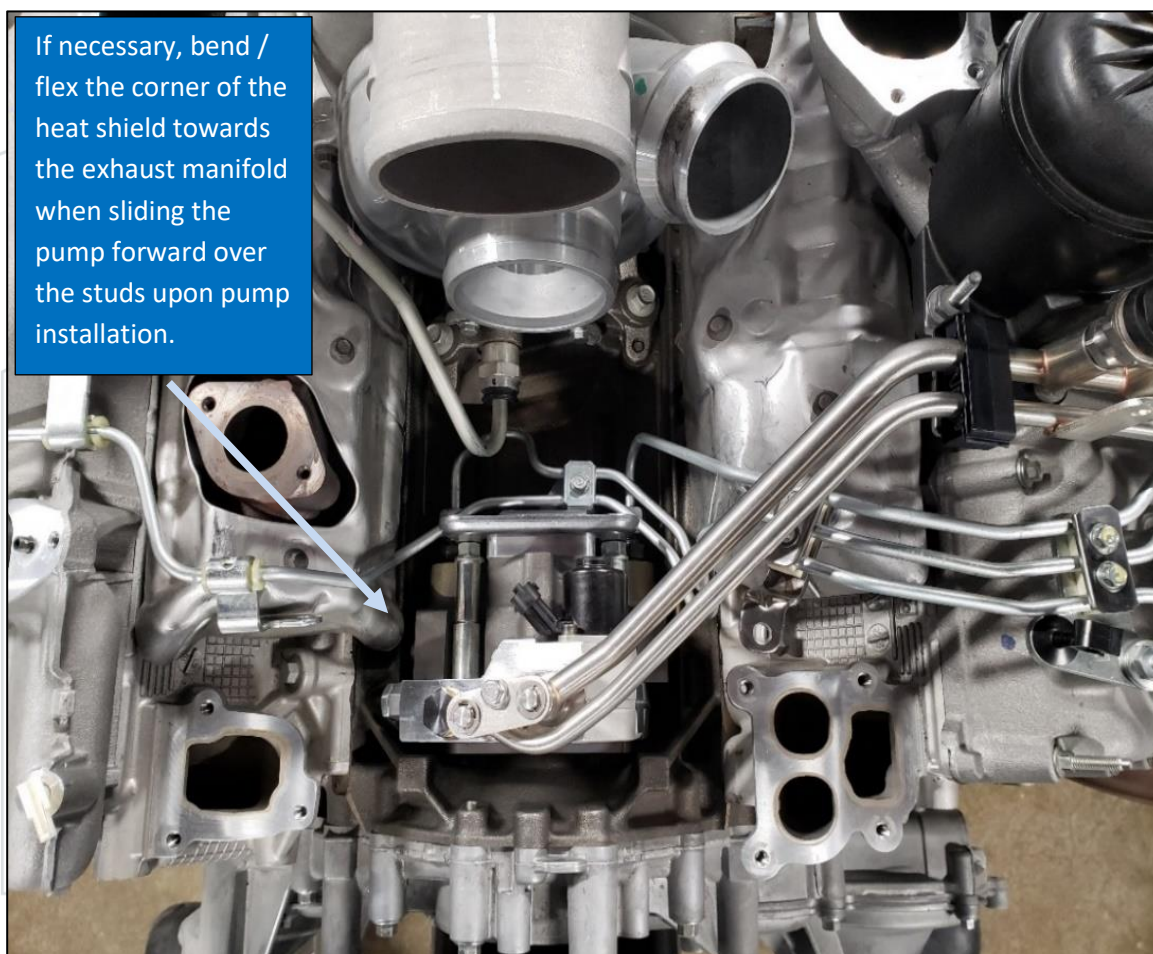

Figure 26: DCR Pump & Lines Installed
- b. If the pump is contacting the passenger side heat shield, it may be necessary to bend/flex the heat shield towards the exhaust manifold in order to provide clearance (Figure 26)
17. Connect the fuel control actuator (FCA / VCV) electrical connector to the pump (Labeled as C in Figure 26).